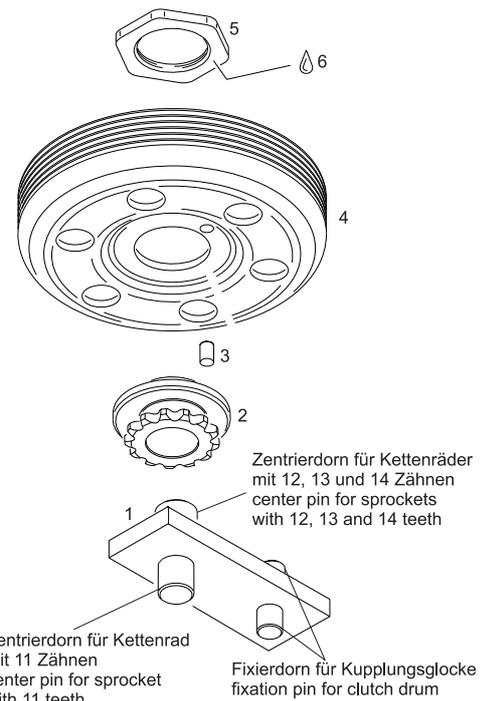

Fig. 15-1
- ➔ Apply grease on needle cage (9) at use of chain sprocket with 12, 13 and 14 teeth or on plain bearing (9) for chain sprocket with 11 teeth.
- ➔ Apply LOCTITE 221 on the thread of hex.nut (item 15).
- ◆ **Note:** A smaller thrust washer (14) is required for the chain sprocket with 11 teeth, than when using the chain sprocket with 12, 13 and 14 teeth.
- ➔ Fit thrust washer (item 14) and hex. nut (item 15) and tighten nut to 60 Nm / 530 in.lb.
The chain sprocket (item 2) is attached to the clutch drum (item 4) with a hex. nut (item 5) and torque is transmitted by a needle pin (item 3) (see fig. 15-1). The proper changing or renewal of the chain sprocket is only feasible when using the appropriate fixture (item 1, ROTAX part no. 277 362). To change or renew the chain sprocket proceed as follows:
- ➔ Clamp fixture (1) for the chain sprocket in a vice.